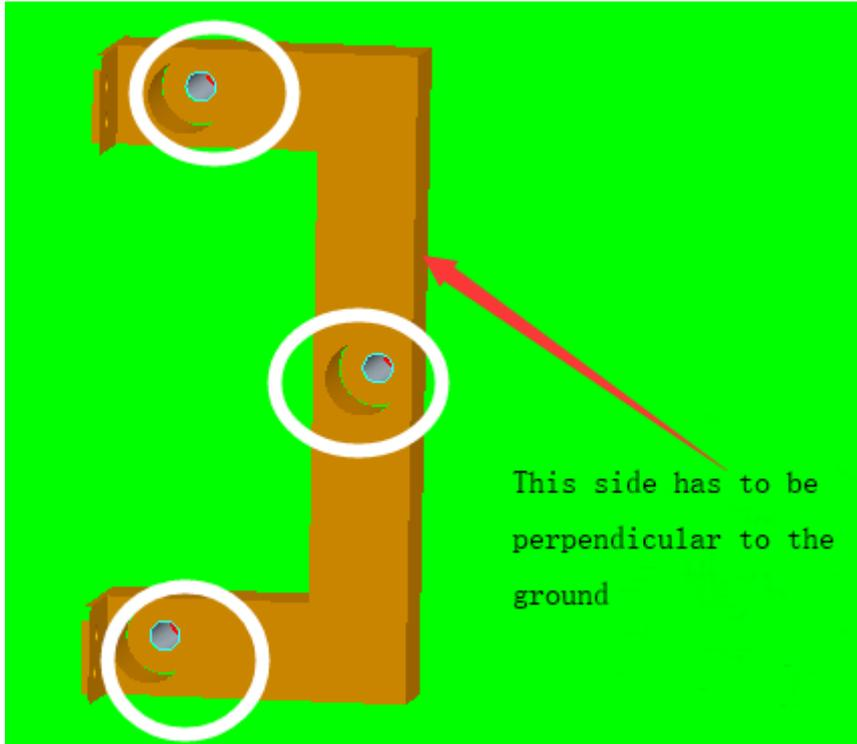

Figure 2-3-3 Hole Location Diagram
- Step 1: The wall where the gateway is installed must be flat and open-sided, make sure no shield within 5 meters around LoRa antenna. Drill 3 holes of  $\varnothing 14\text{mm}$  diameter, 60 mm depth (swelling screw is about 50mm long) according to the position of the bracket mounting holes, Figure 2-3-3.